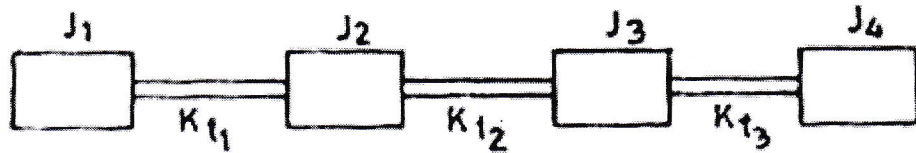

Figure: 2
6. Use Holzer's method to determine the natural frequency of the system shown in Figure 2.